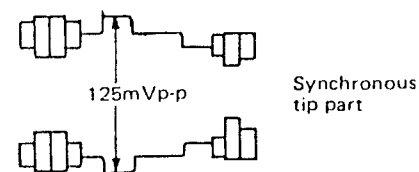

Figure 45.
- 5) Adjust FM record current to the level shown in figure 45 by using R3326 (Luminance control in record mode).